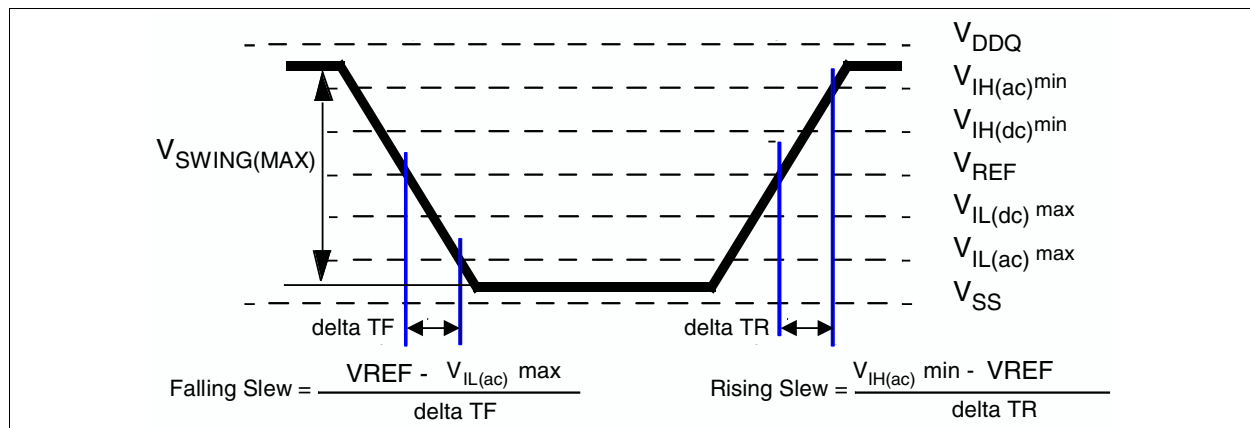

Figure 60 Single-ended AC Input Test Conditions Diagram
- 2) The input signal minimum Slew Rate is to be maintained over the range from $V_{IH(ac).MIN}$ to V_{REF} for rising edges and the range from V_{REF} to $V_{IL(ac).MAX}$ for falling edges as shown in **Figure 60**